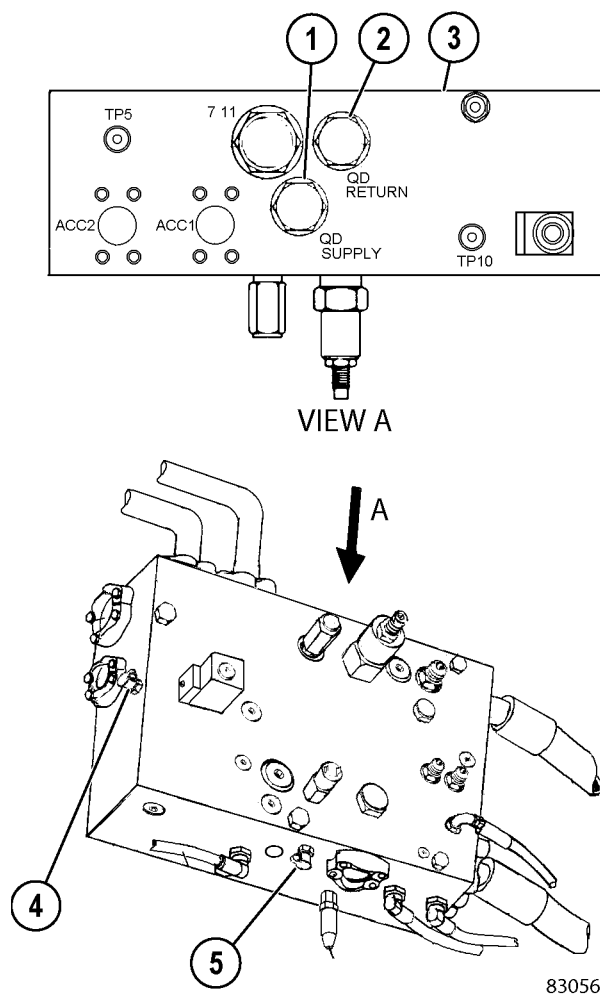

FIGURE 10-1. BLEED DOWN MANIFOLD
- Pressure test port "TP3" (4, Figure 10-1) on the bleed down manifold - 35 000 kPa (5,000 psi).
8. Ensure pressure gauge connected at "TP3" reads 0 kPa (0 psi) before removing plugs (1 & 2, Figure 10-1). Remove plugs (1 & 2) from the bleed down manifold. Connect jumper hose assembly (XB5777) between "QD supply" port and the "QD return" port on the bleed down manifold. Tighten all connections securely before applying pressure.
26. Check the pressure gauge connected to the "TP3" port on the bleed down manifold. If any pressure is still in the system, the bleed down process did not complete. Locate and repair the problem. If the pressure is 0 kPa (0 psi), remove the jumper hose and fittings installed in the bleed down manifold. Install the two plugs (1 & 2, Figure 10-1) previously removed back into the bleed down manifold.